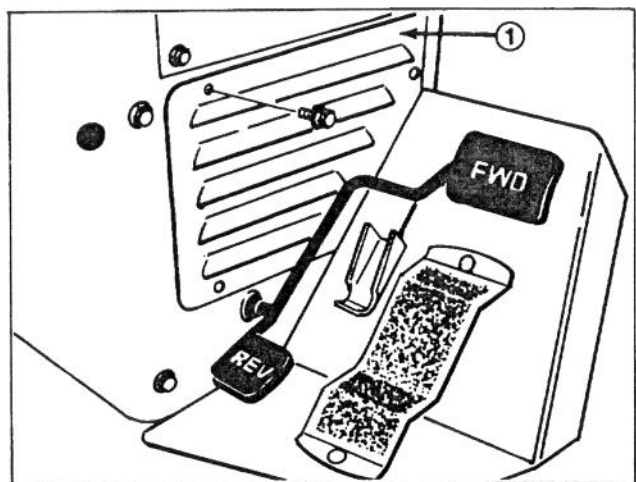

Figure 44
## ADJUSTING TRACTION PEDAL (Fig. 44, 45)
1. Remove (3) self tapping screws securing support screen to hydraulic support panel (Fig. 44). Remove screen.